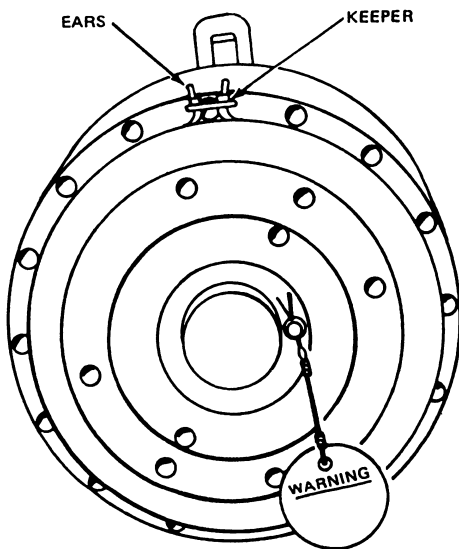

Figure 12-38.—Ears straddling 12 o'clock position hole.
5. Squeeze the ears together and lock them in place by means of the small keeper on the ring. (See figure 12-38.)